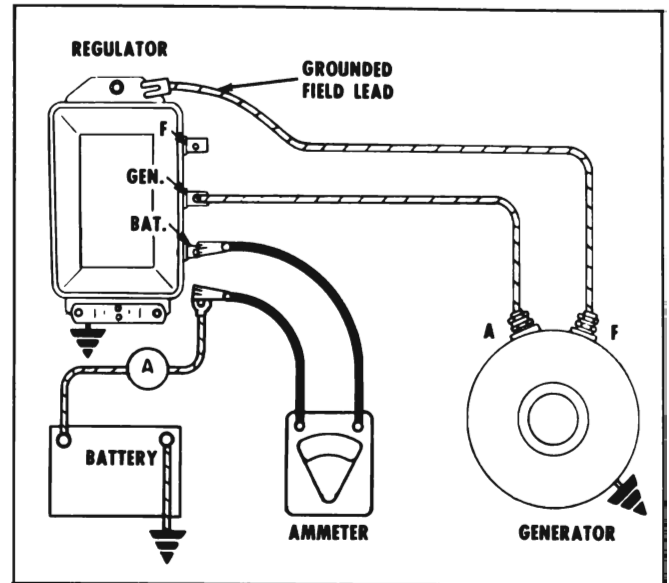

Figure 10-13—Testing Regulator for Oxidized Points
3. Disconnect field lead from regulator "F" terminal and ground it on regulator base. See Figure 10-13. If ammeter reading increases